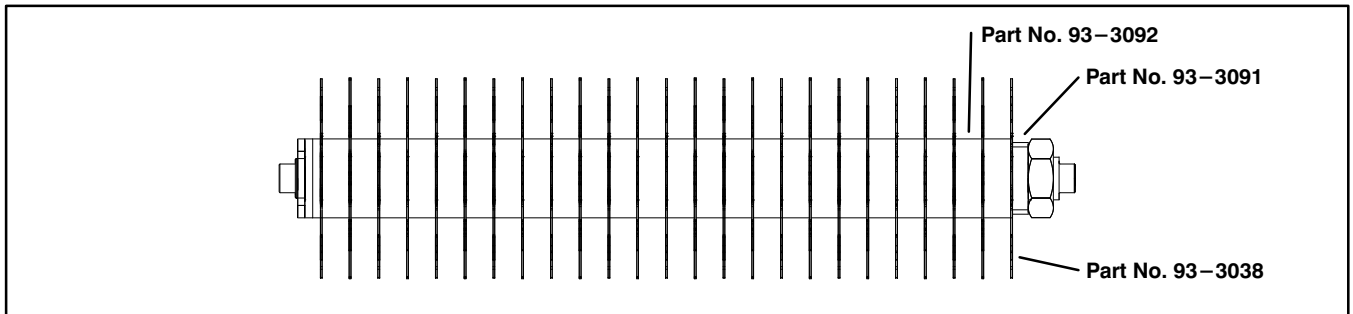

Figure 12
1" Spacing (Standard) – Requires (24) Blades (part no. 93-3038), (2) 1/4" Thick Spacers (part no. 94-2720) and (25) 1" Thick Spacers (part no. 93-3092) (Fig. 12).